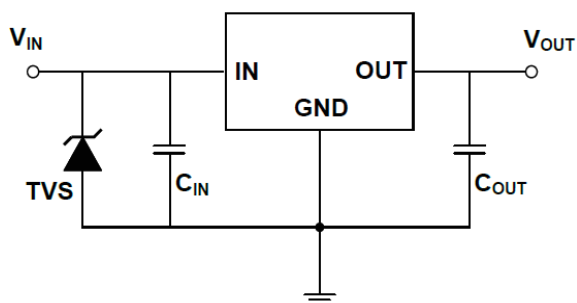

Figure 1. TVS is used at IN
1. Place a TVS between the IN and GND of the voltage regulator to absorb the peak voltage that may be generated due to ESD or other reasons. As shown in Figure 1;